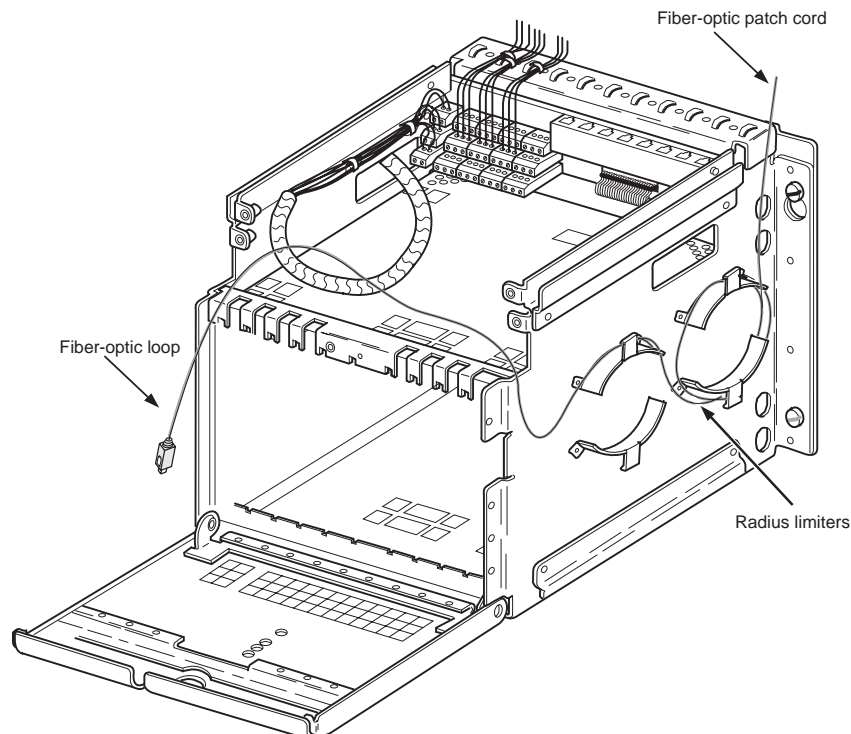

Figure 8. Routing the Fiber Through a Four-Position Remote Terminal Cabinet
- 2 Route the fiber patch cord through the top of the chassis and around the radius limiters as shown in Figure 8. The protective cover must remain on the fiber connector to prevent dust and damage to the connection. The fiber should be tagged to identify the circuit.